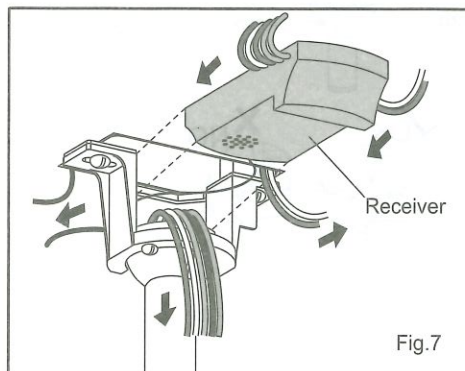

Fig.7
10. Move Ground Wires and Motor Wires away from the center of the Hanger Bracket. Then slide Receiver through Hanger Bracket as shown, Antenna end first, until it is centered.(Fig.7)